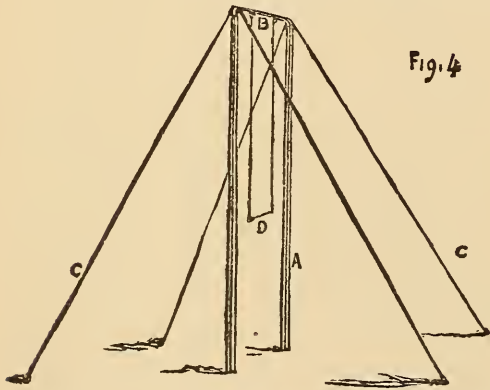

Fig. 4
Fig. 4 represents a very simple way of forming the uprights for a swing. It consists of two scaffold poles, or more correctly speaking, Norway spars (the same as used for ladder-making when they have been sawn down the centre). They may be procured at any ladder-makers, with the bark taken off and properly trimmed. The top should be 2 in. in diameter, and the bottom $3\frac{1}{2}$ to 4 inches. The cross-piece (B) to which the ropes are fastened is formed of 2-in. gas barrel, *i.e.* iron tubing, and is measured by the calibre or inside diameter, therefore 2-inch gas tubes will measure about $2\frac{1}{2}$ inches outside diameter. The elbows, which are bought already screwed, would have to be fitted with iron staples riveted to them, to fasten the wire rope to, and two hooks also riveted through the tube, made of $\frac{1}{2}$ -in. diameter iron, 18 inches apart, for attaching the swing.
The four stays (F F F F) and stakes (G G G G) just the same as described in Fig. 4.